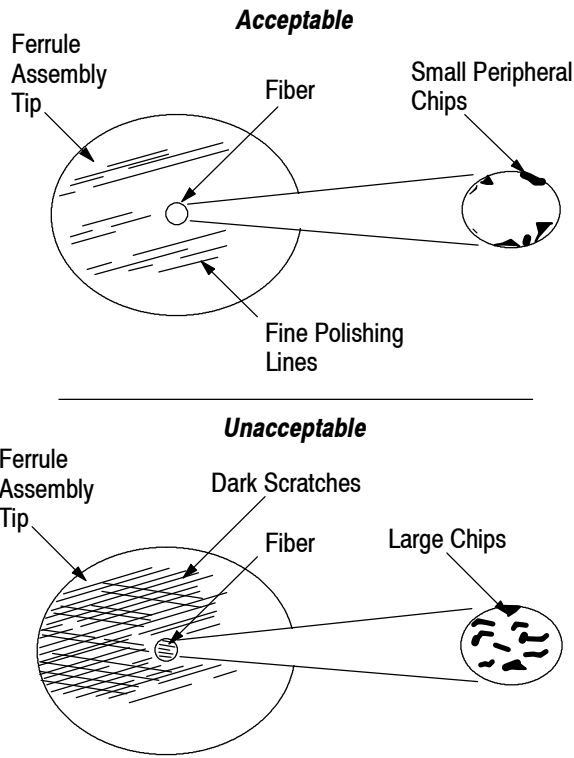

Figure 10
1. Using the fiber optic inspection microscope kit, inspect the ferrule assembly and fiber according to the following criteria (refer to Figure 10):